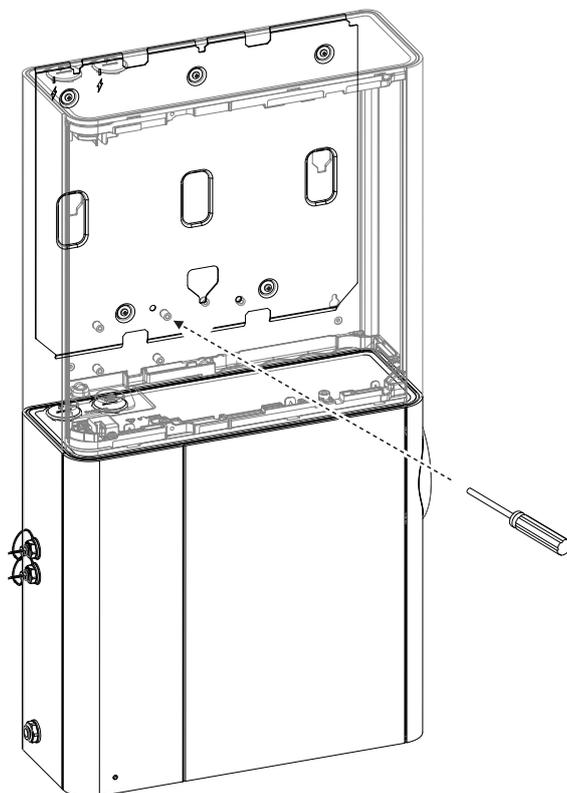

Figure A-9: Secure the Expansion StaX to its mounting bracket
6. Secure the Expansion StaX to its mounting bracket by inserting and tightening a retaining screw (Figure A-9).